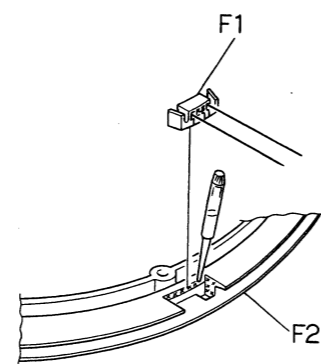

Fig. 5.3
(4) Refer to Fig. 5.3. Mount F1 (wire holder) on the wire holder fixing point of F2 (dial pulley). At this time, thoroughly remove the adhesives possibly remained before dripping a few drops of AVDEL BOND #C-2 onto the three points prepared at the end face for fixing.